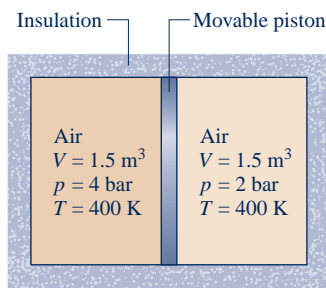

Fig. P6.66
6.66 As shown in Fig. P6.66, an insulated box is initially divided into halves by a frictionless, thermally conducting piston. On one side of the piston is 1.5 m³ of air at 400 K, 4 bar. On the other side is 1.5 m³ of air at 400 K, 2 bar. The piston is released and equilibrium is attained, with the piston experiencing no change of state. Employing the ideal gas model for the air, determine